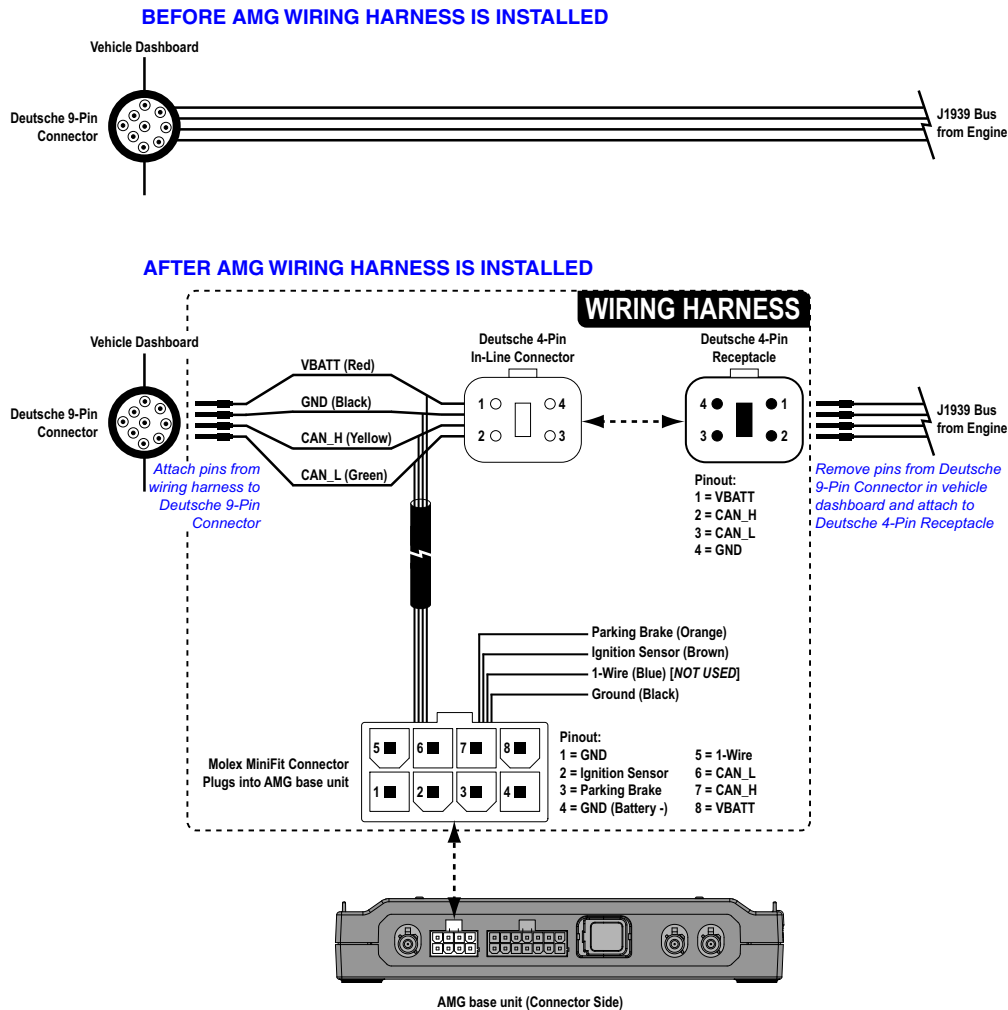

Figure 7: Wiring Harness Installation Overview
Figure 7 shows the wiring harness installation overview. The following section provides the detailed installation instructions.
- 10) Connect the **Ignition Sensor (Brown)**, **Parking Brake (Orange)** and **Ground (Black)** wires from the Molex 8-pin connector (see Figure 7) accordingly.